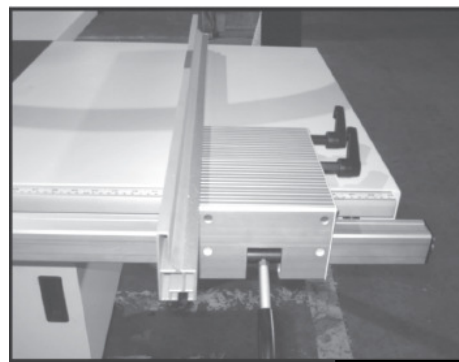
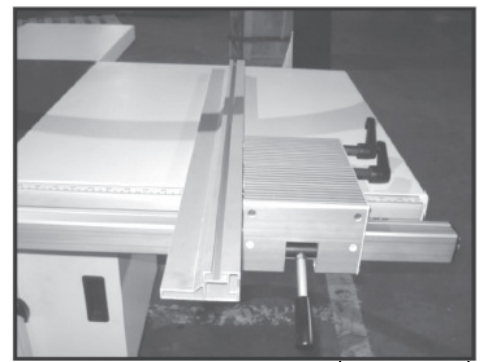

Fig. 40
Fig. 41
1. Place the fence in the vertical position (Fig. 40) for larger work-piece, or in the horizontal position (Fig. 41) for angled cuts